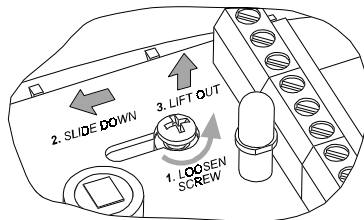

Figure 4. PCB Removal
- Loosen the vertical adjustment screw, slide the PCB down and remove it via the "keyhole" (see Figure 4).
- Remove the PCB (see Figure 4) and put it temporarily aside.